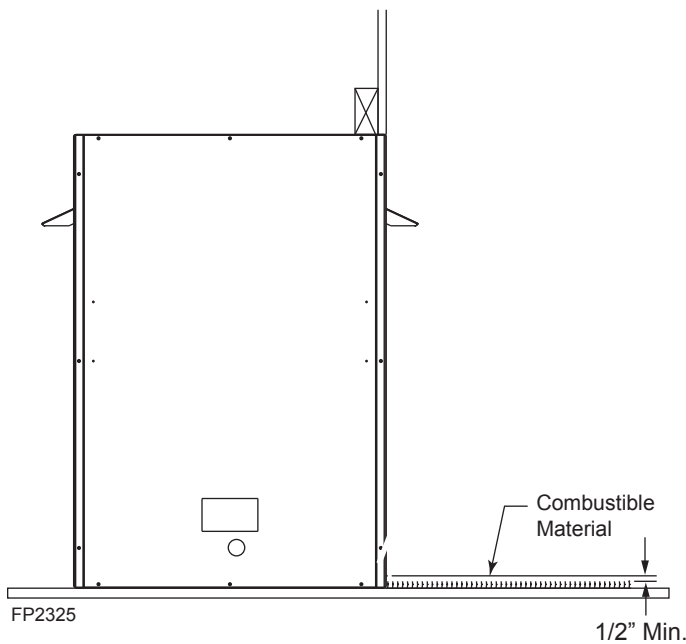

Figure 8 - Floor Clearance above Combustible Flooring Material
6. **Floor clearance** — This firebox hearth opening (inter-chamber floor) must be installed at least 1/2" above any combustible flooring material *Figure 8* or, the firebox hearth may be installed flush with the floor if noncombustible material such as slate or marble is installed between the base of the firebox and the combustible flooring. The firebox may be installed directly on a combustible floor or raised on a platform of an appropriate height. Do not place firebox on carpeting, vinyl, or other soft floor coverings. It may, however, be placed on a flat wood, plywood, particle board, or other hard surfaces. Be sure firebox rests on a solid continuous floor or platform with appropriate framing for support so that no cold air can enter room from under the firebox. *Figure 9*.